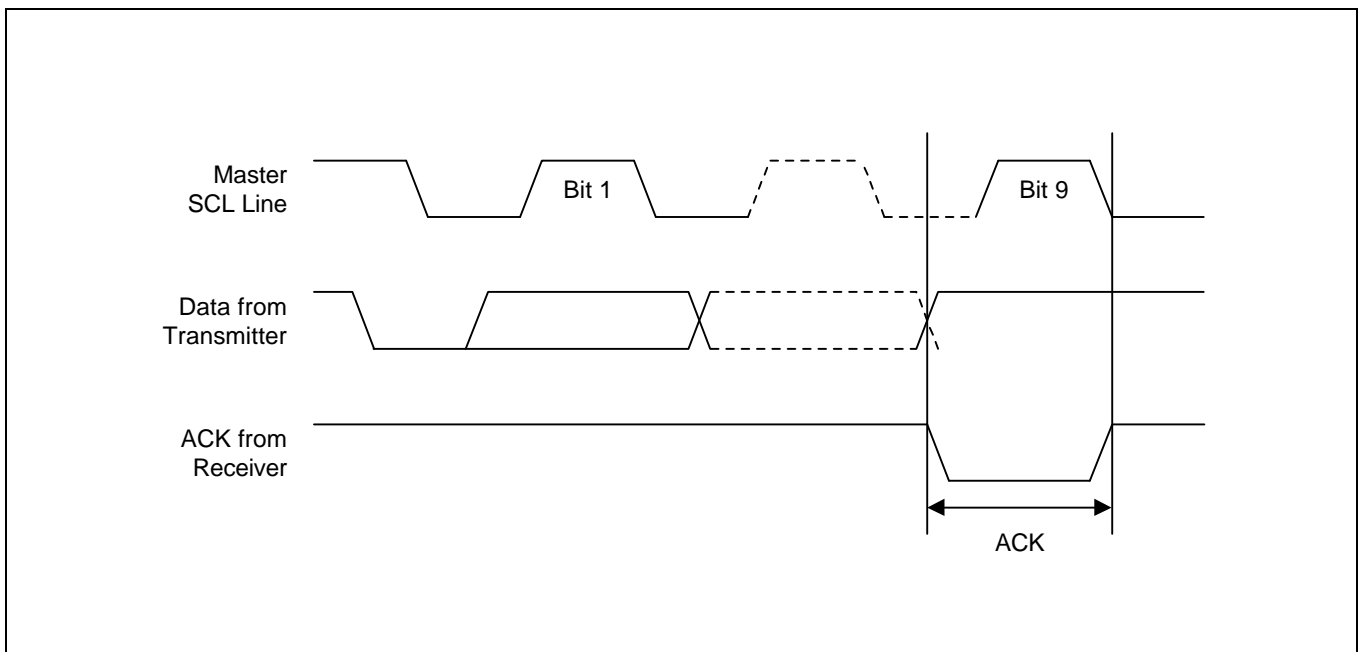

Figure 5-8. Acknowledge Response From Receiver
- **ACK (Acknowledge):** An ACK signal indicates that a data transfer is completed successfully. The transmitter (the master or the slave) releases the bus after transmitting eight bits. During the 9th clock, which the master generates, the receiver pulls the SDA line low to acknowledge that it has successfully received the eight bits of data (see Figure 5-8). But the slave does not send an ACK if an internal write cycle is still in progress.